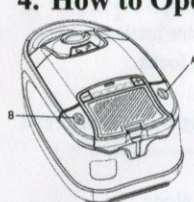

Fig. 4.1
A. On/Off Switch (Fig. 4.1) After assembling vacuum, plug the cord into an electrical outlet. Turn the vacuum ON by pressing the ON/OFF pedal, (A). Turn vacuum OFF by pressing the pedal again.